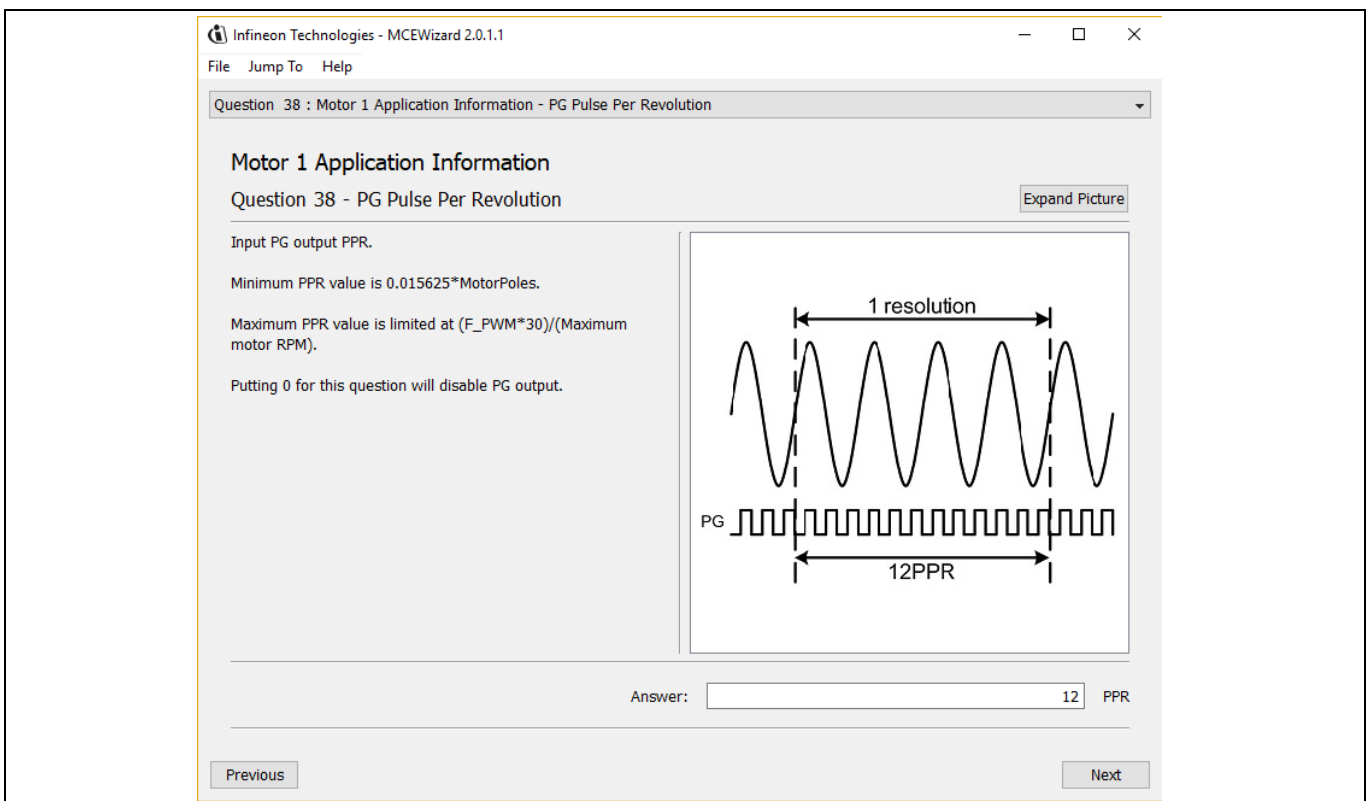

Figure 33 PG pulse per revolution configuration
For analog VSP control input mode, a variable resistance can be used to control the motor speed “4.3 Speed control potentiometer”, and the speed can be calculated by measuring the frequency of Pulse Generation (PG) signal output of the controller. The PG number per revolution for the motor can be configured in MCEWizard, as shown in Figure 33.